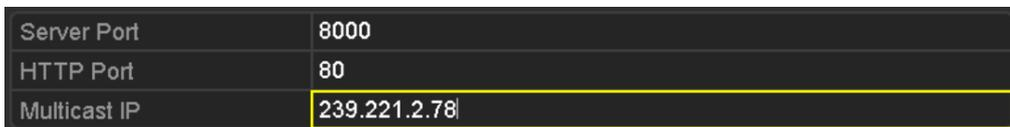

Figure 9.16 Configure Multicast
3. Set **Multicast IP**, as shown in Figure 9.16. When adding a device to the Network Video Surveillance Software, the multicast address must be the same as the NVR’s multicast IP.